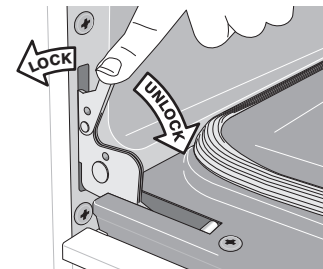

Figure 7: Door hinge locks
2. Pull the door hinge locks on both left and right door hinges down from the oven frame completely towards the oven door (See Figure 7). A tool such as a small flat-blade screwdriver may be required.
4. Push the door hinge locks up towards and into the oven frame on both left and right oven door hinges to the locked position (See Figure 7).